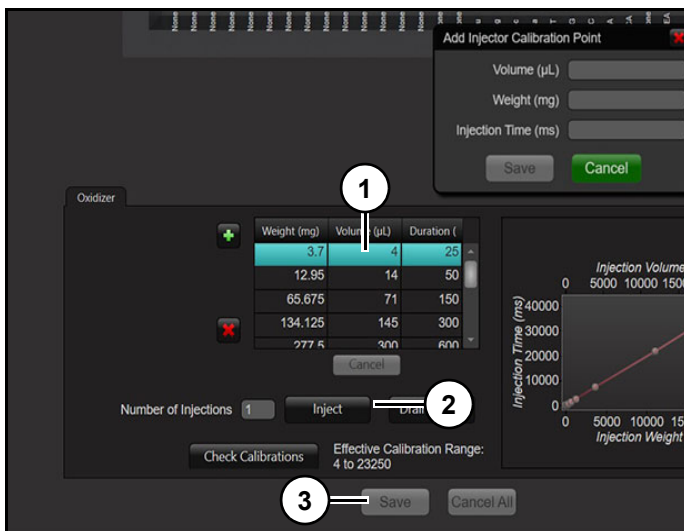

Figure 13
- Click "Inject" (2) (Figure 13). Instrument will open valve for 1200ms, injecting liquid into collection vial.
- Enter measured volume into "Injection Volume (µL)" (1) (Figure 13).
- Click "Save" (3) (Figure 13). To calibrate another point, highlight appropriate line with a mouse click.